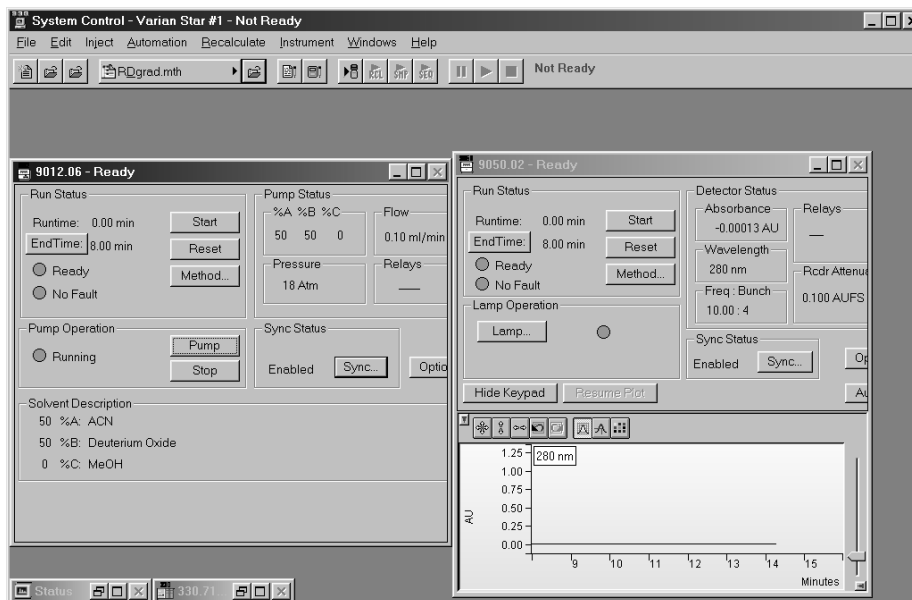

Figure 123. STAR System Control Window
- A System Control window for each module is created and opened, see Figure 123. The control window contains all of the controls for the particular module, such as *pump on/off*, and so on.
- Enlarge the pump and detector windows, in the system control window, to monitor the pump and detector states, see Figure 123.